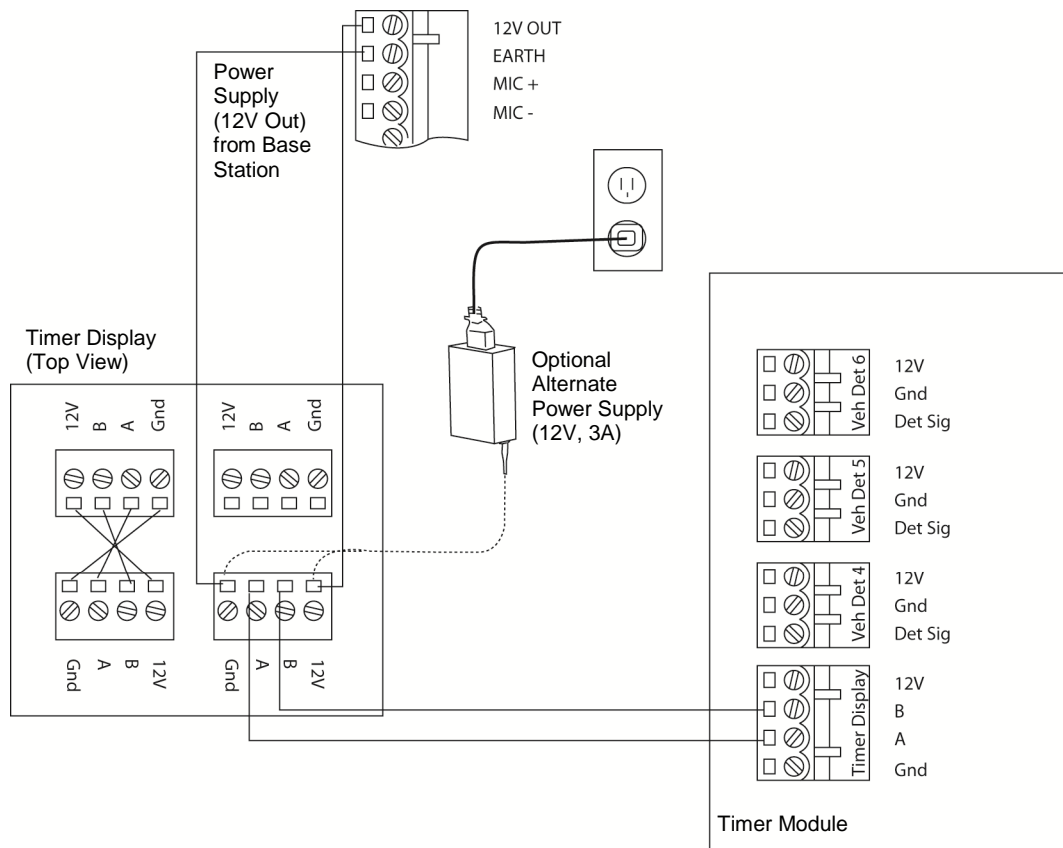

Figure 17
- Figure 17 shows the recommended wiring.